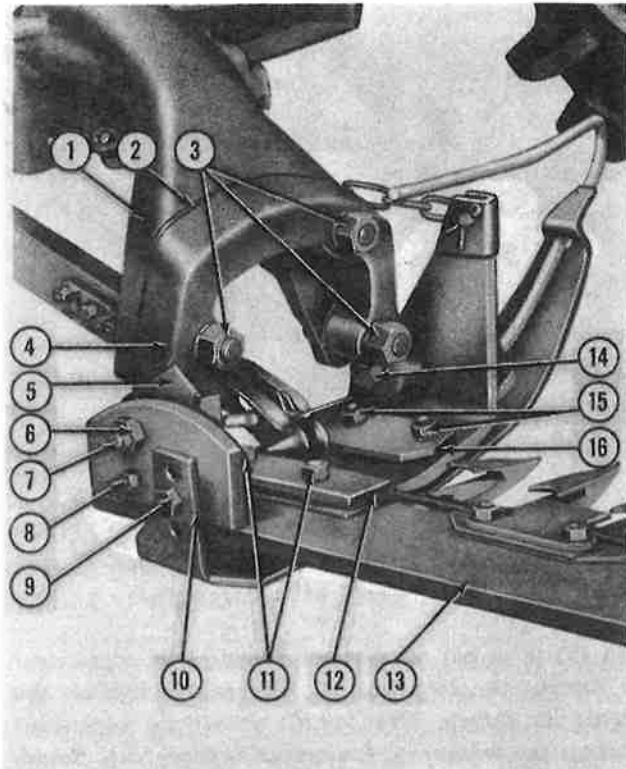

Figure 9
Register Adjustment: Proper knife register is an important factor in efficient mower operation. The center line of the knife sections should be approximately in line with the center line of the knife guards, when the Pitman arm is at either end of its stroke. If the knife sections are out of register, adjust them by adding or removing shims (2), Figure 9, between the yoke bracket (1) on the main frame and the cutter bar yoke (4).
Knife Guides: To avoid excessive slap or vertical play of the knife head, remove the nuts (11) and (15), Figure 9, from guide plates (12) and (16). Remove the shims from under each guide plate until the knife has approximately 1/64" - 1/32" vertical freedom (the knife should not bind when the cutter bar is lifted and is bending under its own weight). When replacing the rear knife guide (12), position the wear plate underneath the knife guide so the knife head has approximately 1/16" to 1/32" side play.
Cutter Bar Tilt: The cutter bar may be adjusted to tilt up or down 10 degrees. This adjustment is made by loosening the three nuts (3), Figure 9, and rotating the cutter bar (13) and yoke (4) on the lower frame yoke bracket (1) to the desired position. Slotted holes in the yoke bracket (1) permit the bolts to move with the cutter bar.
Cutter Bar Lead: The Ford Rear Attached Mower Cutter Bar is designed with a built-in lead of 1-1/2 degrees (1/4" per foot of cutter bar). To compensate for wear, a lead adjustment has been provided through an eccentric on the rear hinge bushing. To adjust, remove the bolt (8), Figure 9, loosen the lock nut (6) and the rear hinge bolt (7) which is threaded into the inner shoe. Then, rotate the eccentric flange (5) by tapping it with a hammer for the proper lead. Secure the eccentric flange (5) to the inner shoe with the locking bolt (8), lock washer, and nut as shown in Figure 9, and tighten the rear hinge bolt (7) as much as possible. Lock the hinge bolt securely with the lock nut (6).
IMPORTANT: Hinge bolts (7) and (14), Figure 9, should be checked frequently to be sure they do not work loose.
To adjust the inner shoe, remove the bolt (9), Figure 9. Raise or lower the sole to the desired position on the shoe (10) and replace the bolt (9). Secure with the lock washer and nut as shown.